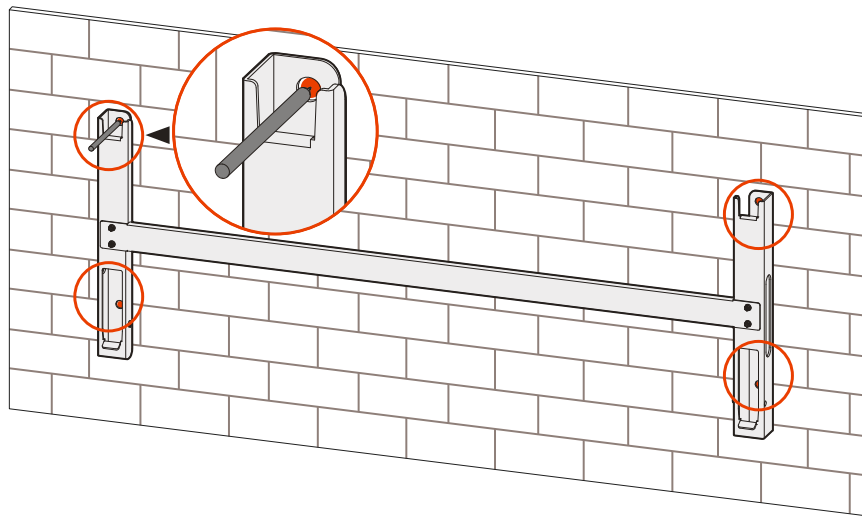

Figure3-19 Mark the mounting holes position
Step 2 Place the assembled installation holder onto the installation site, use a horizontal ruler to adjust the angle, and mark the position of the hole on the wall, as shown in Figure3-19.